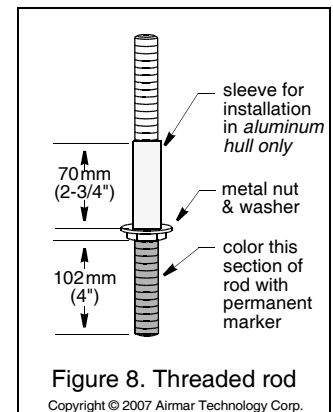

Figure 8. Threaded rod
3. Prepare the threaded rods (see Figure 8). Using a permanent marker, draw a line on each threaded rod 102mm (4") from the end and color this section. (The colored section will be used to fasten the transducer to the fairing.) Screw a nut onto the colored section of each threaded rod *above* the 102mm (4") line drawn.
3. Slide a washer along the *uncolored* section of each threaded rod until it rests against the nut (see Figure 8).